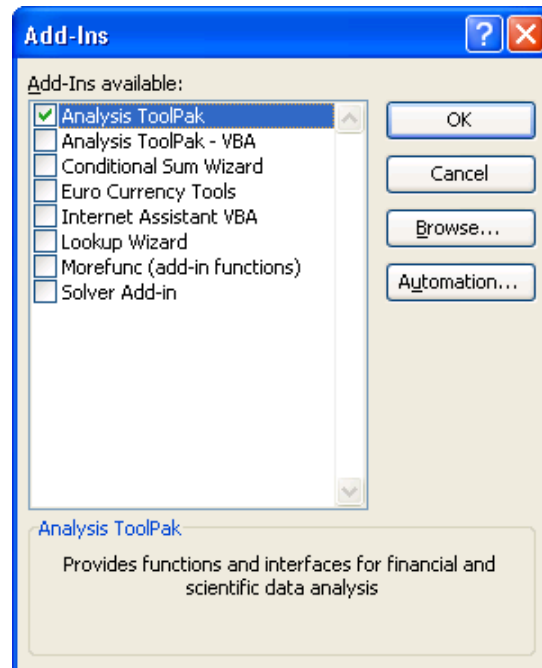

Figure 65.01. Installing **Analysis ToolPak**
- (1) Click **Tools** and then click **Add-Ins**, and
- (2) Select **Analysis ToolPak**, click **OK**, and follow the instructions (Figure 65.01).